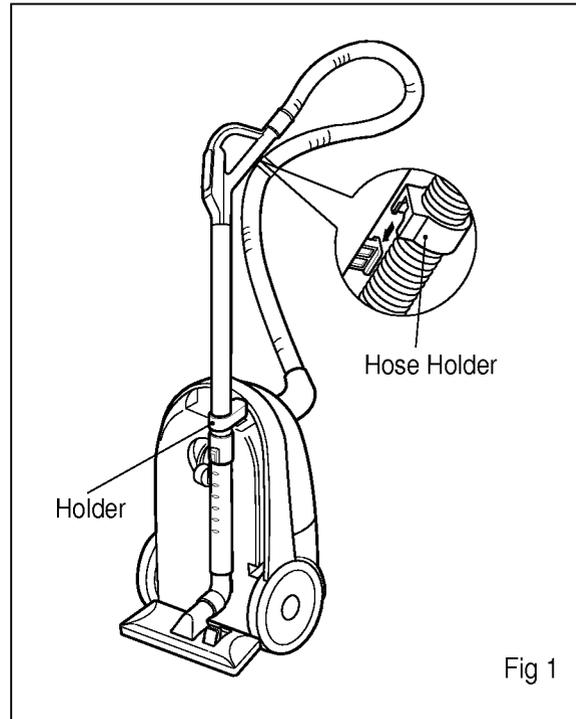

Fig 1
15. When not in use, you can attach the hose and the wand to the bottom of the cleaner in upright position. Push the holder into the holder slot on the bottom of the cleaner. (Fig 1)
2. When not in use, you can attach the hose and the wand to the bottom of the cleaner in upright position. Push the holder into the holder slot on the bottom of the cleaner. (Fig 1)